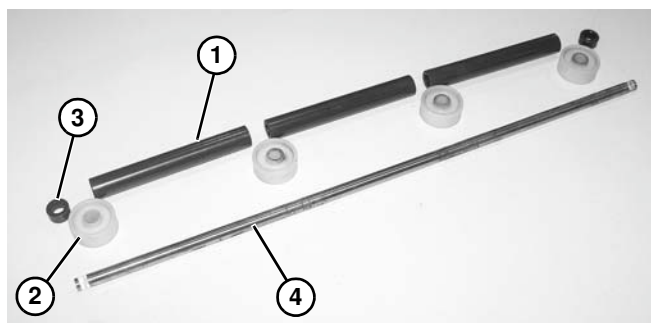

Figure 33
4. Assemble spacer tubes (**Figure 33, item 1**), rollers (**Figure 33, item 2**), and end spacer tubes (**Figure 33, item 3**) onto shaft (**Figure 33, item 4**).